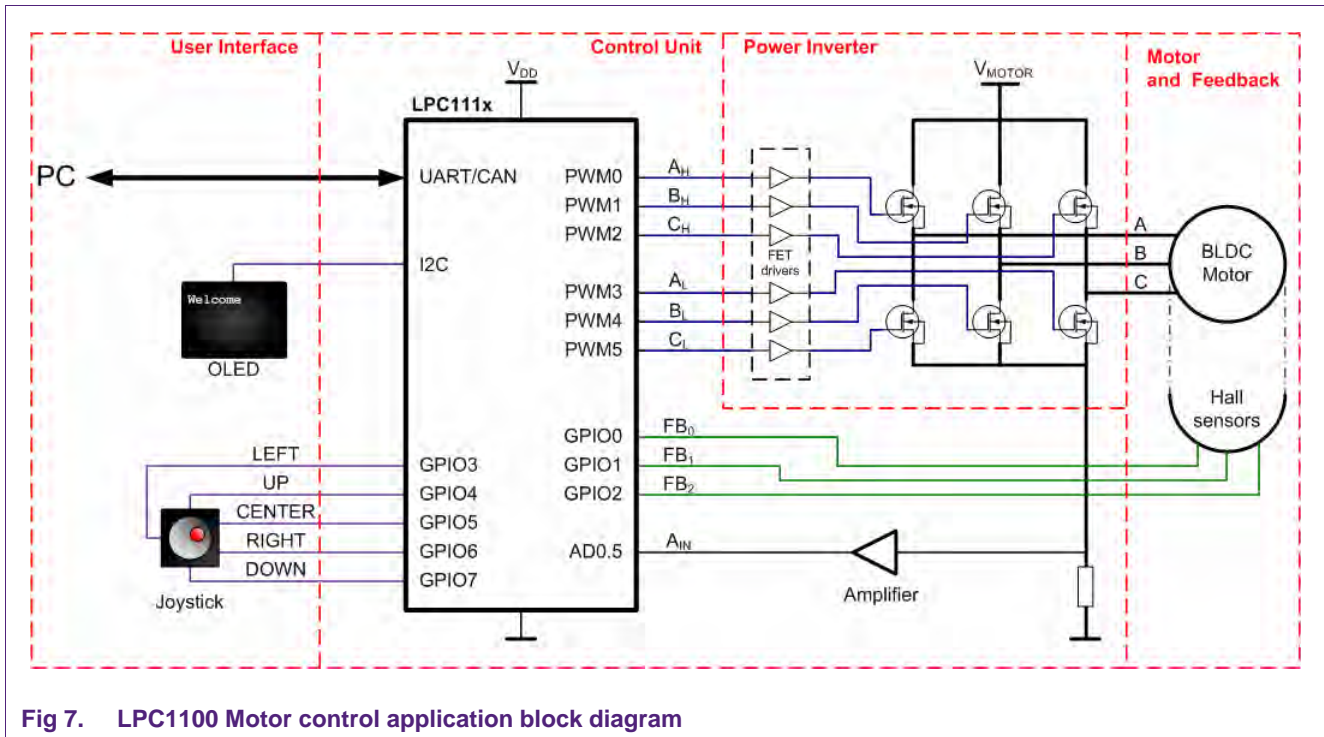

Fig 7. LPC1100 Motor control application block diagram
This motor control application can be divided in three main parts: The control unit, the power unit, (both of which are implemented on the LPCXpresso Motor Control board), and the external BLDC motor (Fig 7).
The power unit is the high power part of the application. It consists of the power MOSFETs for directing and controlling the current through the motor. Since these MOSFETs can't be driven directly from the microcontroller, FET drivers are incorporated in the power unit. The temperature sensor (Fig 7) is placed as close as possible to the power MOSFETs for monitoring and fail-safe purposes.
The table below shows all connections used for this application note as depicted by Fig 7. For a complete reference of all connections of the LPCXpresso LPC11xx/LPC11Cxx to the LPCXpresso Motor Control board, please see the LPCXpresso Motor Control Kit User's Guide.
**Table 6.** Application connections as depicted in Fig 7